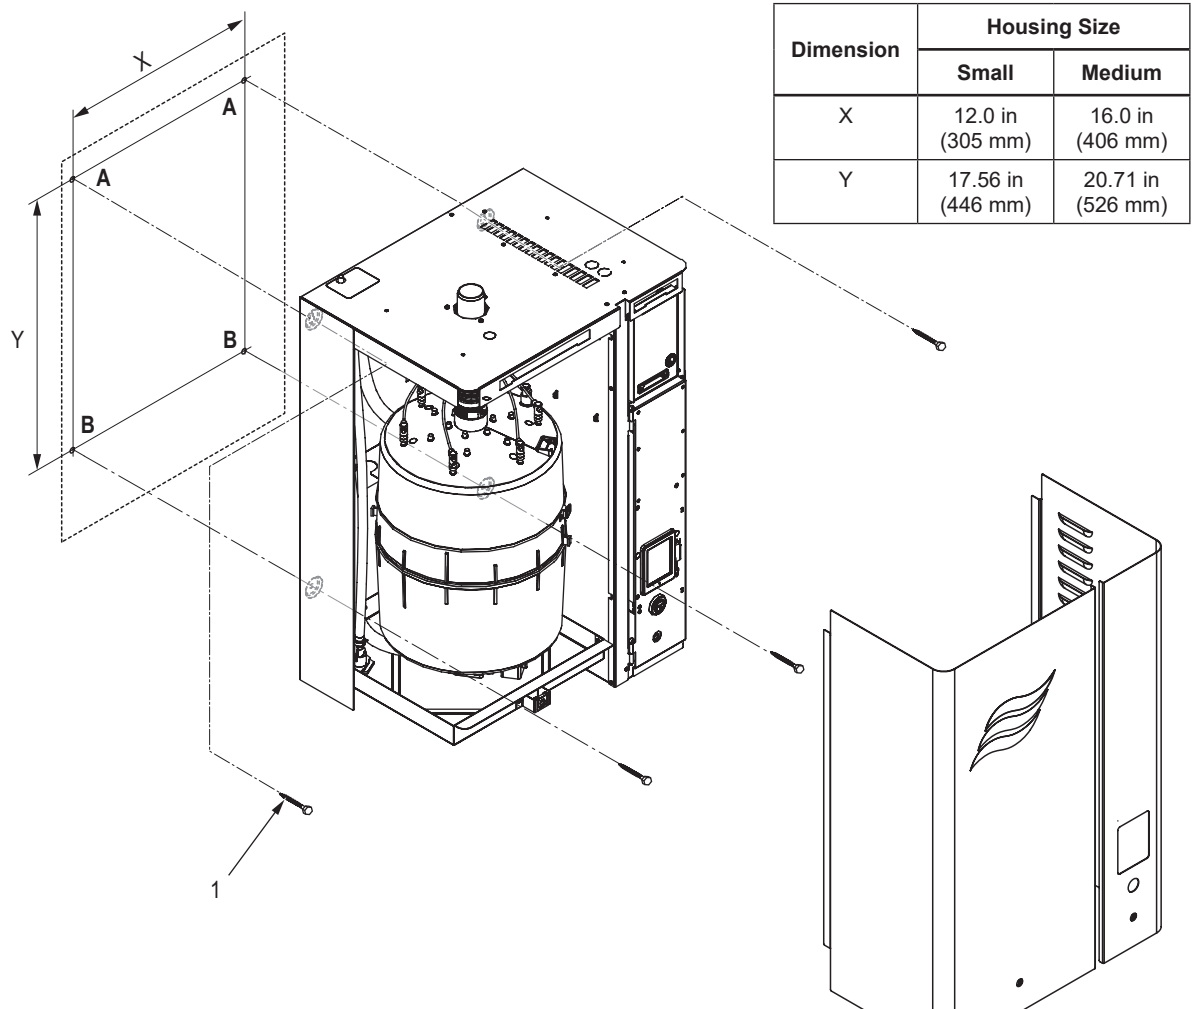
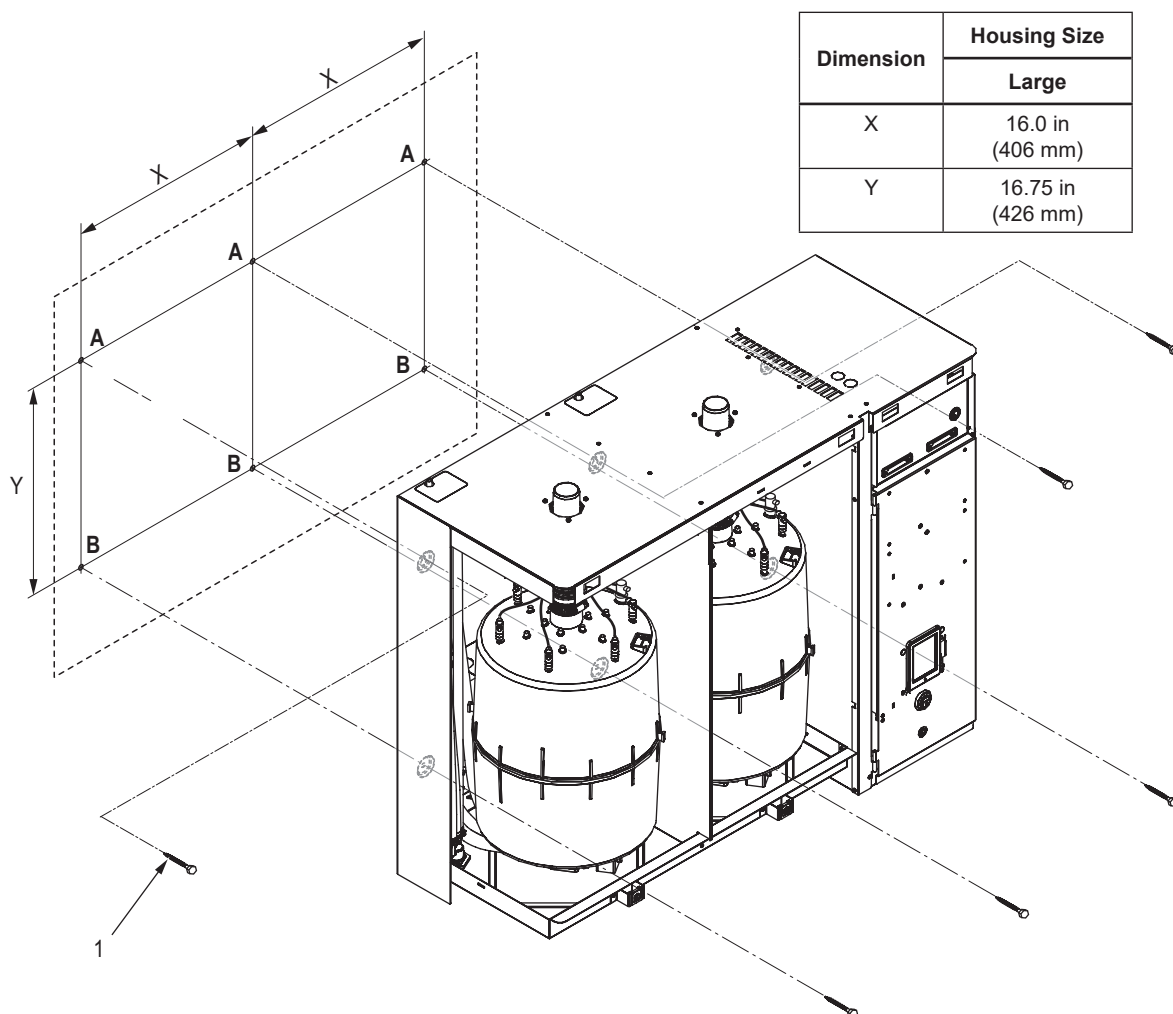

Figure 7: Standard Mounting, Small or Medium Housing
Figure 8: Standard Mounting, Large Housing
1. Locate 2×4 wooden studs or equivalent support in the mounting surface, and mark the attachment points "A" and "B" at the desired position with the help of a level. For small or medium housing refer to Figure 7. For large housing refer to Figure 8 on page 23.